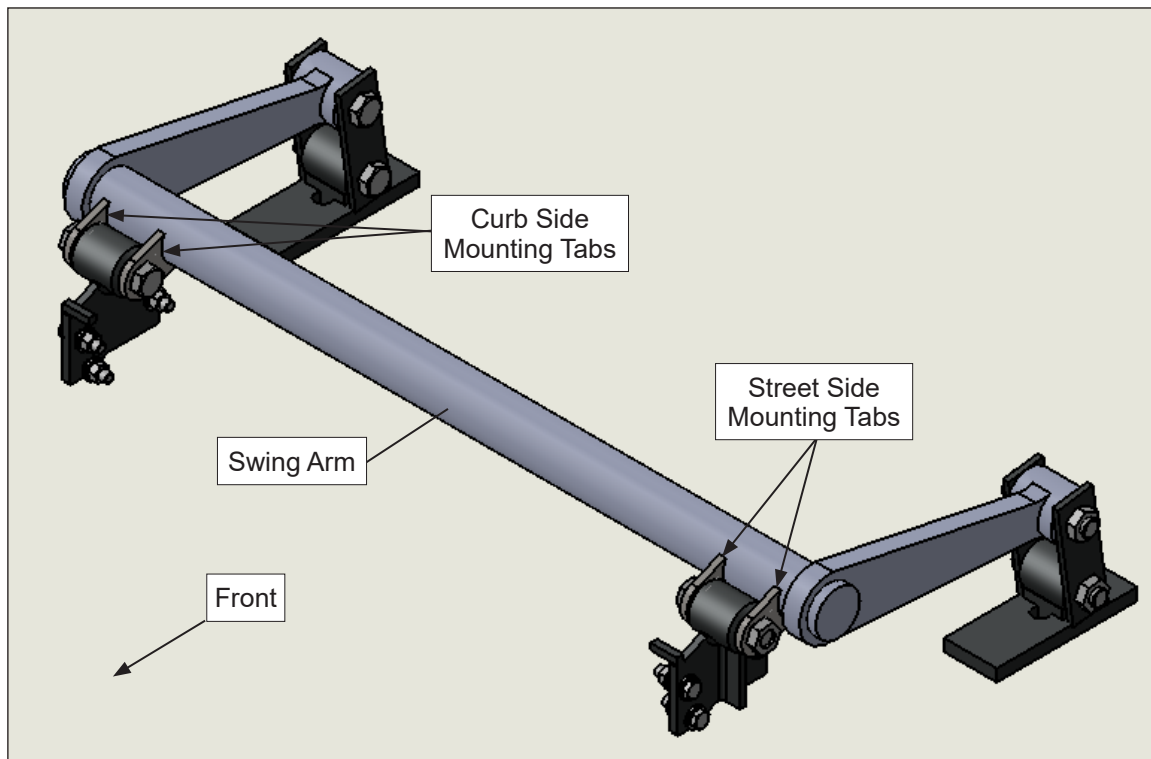
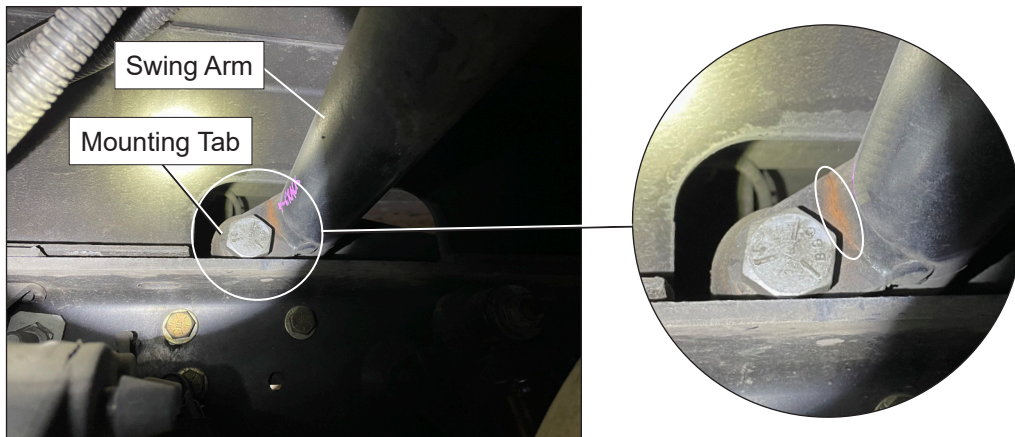

Figure 4 — Torsion Bar Mounting Tabs to Inspect
Figure 5 — Example of Cracking in Swing Arm Mounting Tab Weld
4. Remove any dirt and debris from the welds on the torsion bar mounting tabs on the street side and curb side (refer to Figure 4). Use a flashlight and a mirror to inspect each mounting tab from all angles for weld cracks (refer to Figure 5). Mark Result 4 in Figure 10 as "No" if there is no cracking or "Yes" if there is any cracking.